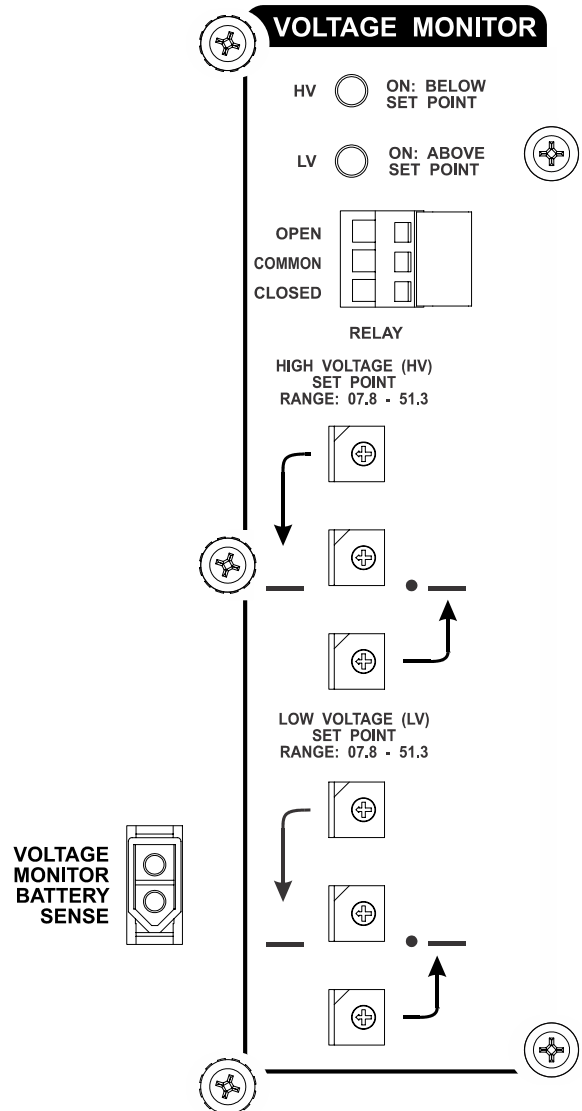

Figure 10.1
The ELC-12/60-CVM-D battery charger includes an integrated voltage monitor/alarm that monitors the DC voltage. Unless the optional VOLTAGE MONITOR BATTERY SENSE input available on the front of the charger is remotely wired to the terminals of the battery, the DC voltage is monitored internally at the charger output. If the DC voltage rises above the HIGH VOLTAGE (HV) SET POINT setting, the green BELOW HV SET POINT LED indicator is turned off and the Form C, dry contact alarm relay is actuated. If the DC voltage falls below the LOW VOLTAGE (LV) SET POINT setting, the green ABOVE LV SET POINT LED indicator is turned off and the Form C, dry contact alarm relay is actuated. The voltage set point switches, LEDs, relay terminals, and optional battery sense input are accessible on the front of the charger (see Figure 10.1).
The HIGH VOLTAGE (HV) SET POINT setting is adjustable with three (3) rotary switches and the LOW VOLTAGE (LV) SET POINT setting is adjustable with three (3) rotary switches, all of which are available on the front of the charger (see Figure 10.1). For both settings, the top switch sets the tens of volts, the middle switch sets the volts, and the
The voltage monitor/alarm includes an optional VOLTAGE MONITOR BATTERY SENSE input available on the front of the charger (see Figure 10.1). If the VOLTAGE MONITOR BATTERY SENSE input is left disconnected, the DC voltage is monitored internally at the charger output. The VOLTAGE MONITOR BATTERY SENSE input can be remotely wired to the terminals of the battery to monitor the voltage at this point. The voltage monitor/alarm detects when the VOLTAGE MONITOR BATTERY SENSE input is connected to the battery terminals and automatically monitors this DC voltage instead of the voltage at the charger output. Please refer to the wiring diagram in Section 15 for the VOLTAGE MONITOR BATTERY SENSE input connector detail.